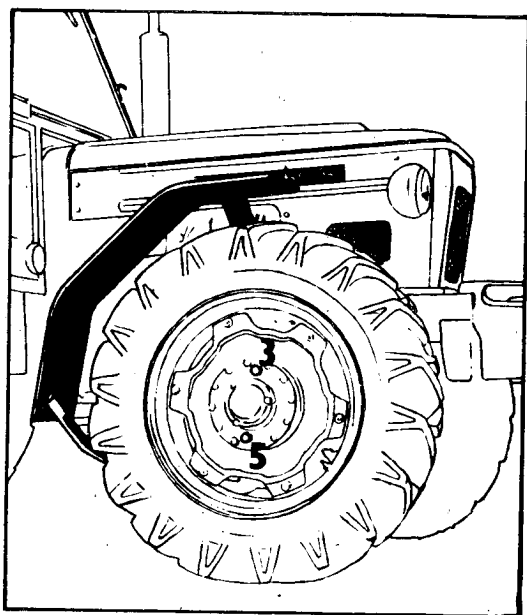

Fig. 11
21. Oil filling orifices of the reducers (Fig. 11/13).
22. Oil draining orifices of the reducers (Fig. 11/5).